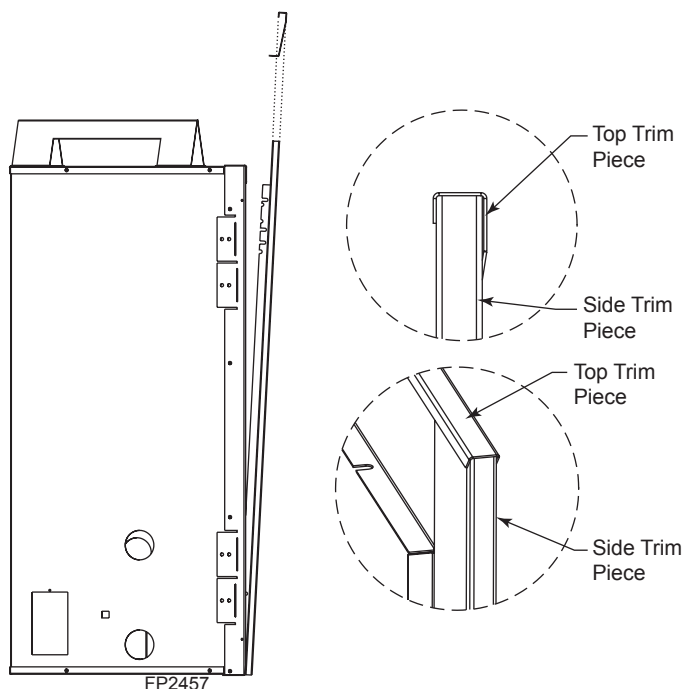

Figure 31
5. Set left and right side piece of trim kit in place on unit. Lean the top of each piece away from the unit and towards you in order to install top trim kit piece. Top piece should fit with sides as shown. *Figure 31*